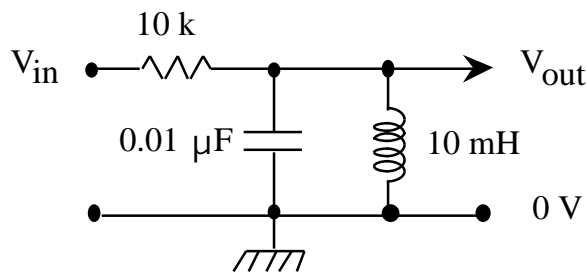

Figure 3.2
3. For a resonant circuit the characteristic impedance Z_0 is the magnitude of the impedance of the inductor or the capacitor at the resonant frequency. Calculate the resonant frequency f_0 , the characteristic impedance Z_0 , and the quality factor Q for the band-pass filter in Figure 3.2. Make a Bode plot showing the expected attenuation versus frequency and mark on it the two half power points f_+ and f_- .